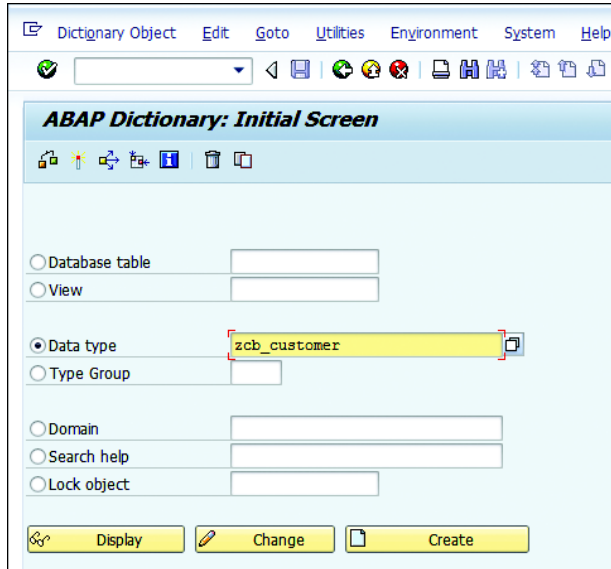

Figure 5.6 ABAP Dictionary Initial Screen
2. Select the `DATA TYPE` radio button on the ABAP Data Dictionary initial screen. Enter the name of the structure. The name should be in a customer namespace, starting with Y or Z. Click the `CREATE` button (Figure 5.6).